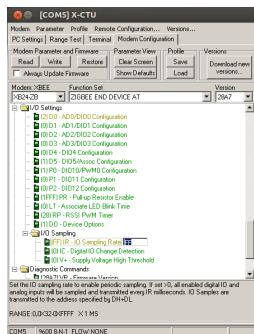

Figure 15.4: Configured end device. D0 set to 2 and IR set to 1FF.
Let's prepare the new configuration. Set the PAN ID to your group ID. Set D0 to analog (2). Set the sampling rate to 255 ms (IR=1FF). We write the changes to the XBee. The configuration should look as shown in Fig. 15.4